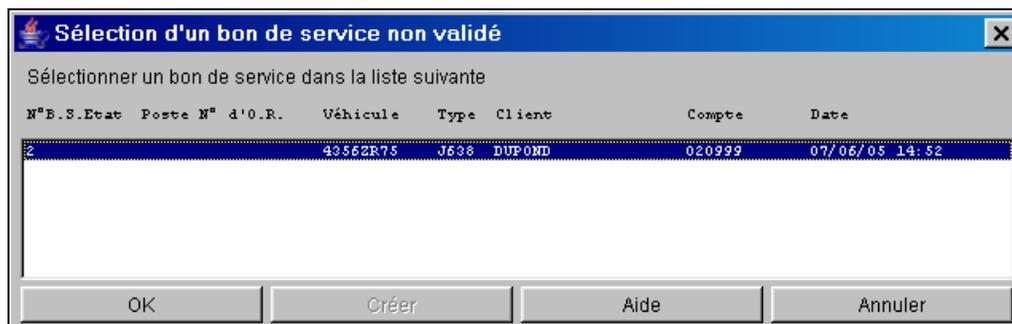

Figure 10: List of service coupons not approved
- Click on the **Current orders** field on the Identity screen. A list of unapproved service coupons for the customer/vehicle file appears (figure 10).